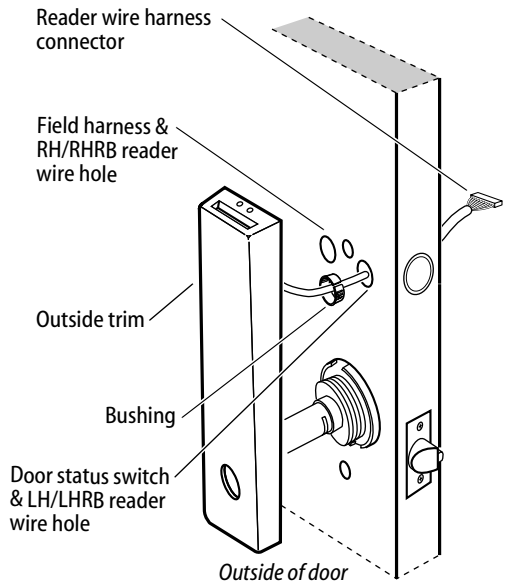
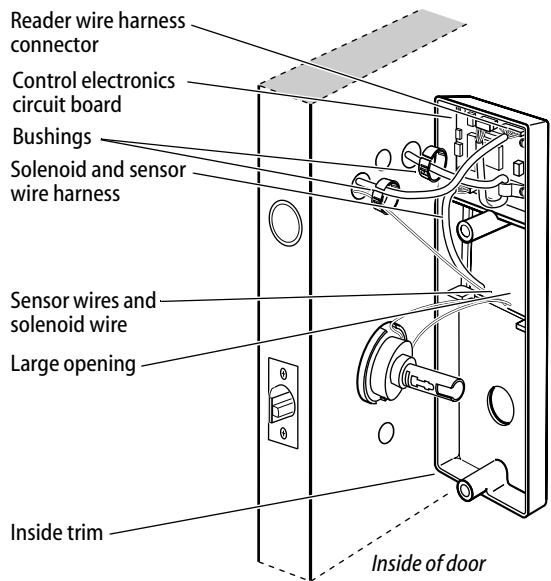

Figure 14a Feeding the reader wire harness connector through the wire hole
Figure 14b Connecting the reader wire harness to the control electronics circuit board
- 5 Insert the three bushings into the wire holes, as shown in Figure 14a and Figure 14b.